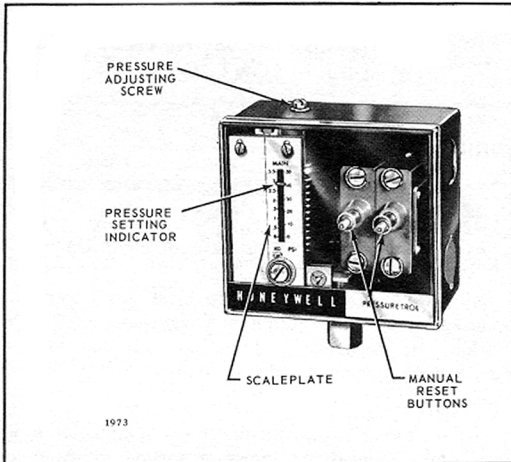

Fig. 2—Controls and indicators on L4079A, L4079B is same except it has only one reset button.
To set the control, turn the pressure adjusting screw (see Fig. 2) until the pressure setting indicator on the front of the case is in line with the required control pressure set point. The indicator setting is the point at which the switch breaks contact.
2. Rotate the Pressuretrol pressure adjusting screw (see Fig. 2) until the pressure setting indicator on the front of the case corresponds to the boiler pressure gauge reading.